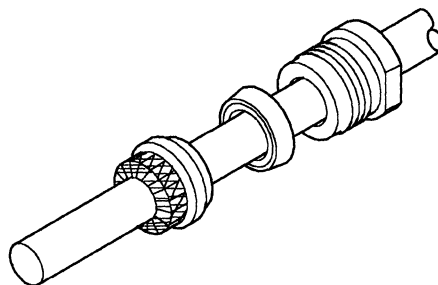

Figure 15. Braid Clamp
3. Slide a braid clamp over the braid, as shown in Figure 15, so that its inner shoulder butts against the cable jacket. Then fold the shield back over the braid clamp and trim below the shoulder.